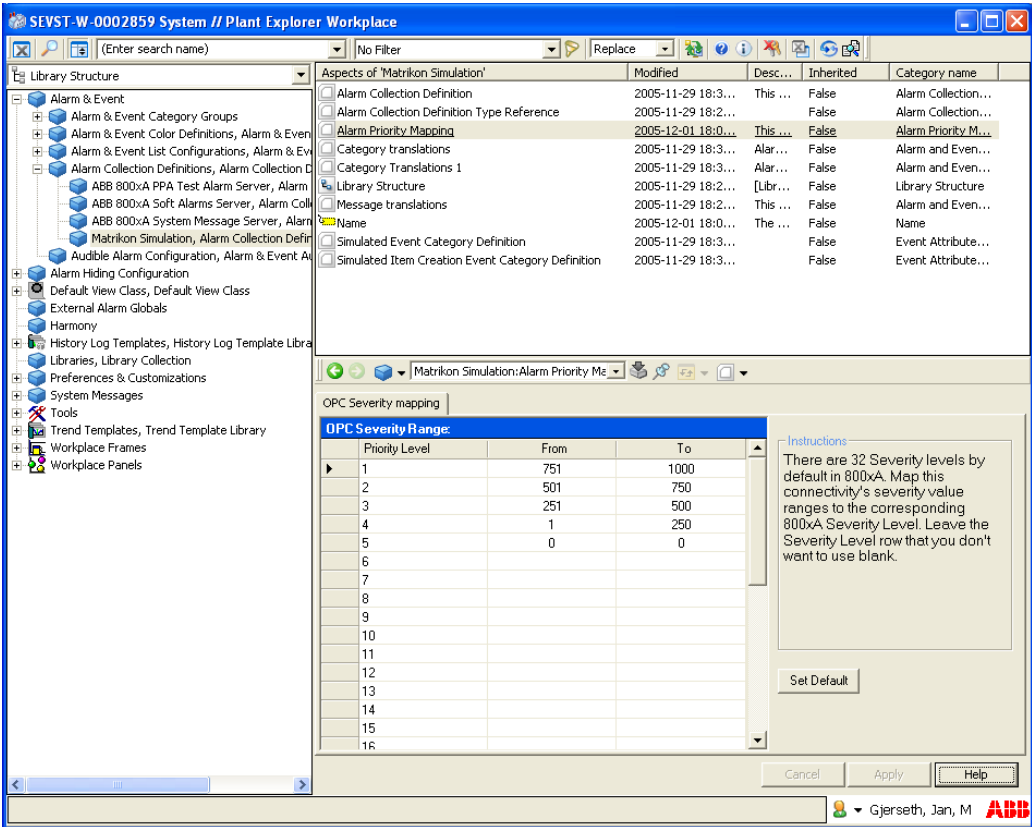

Figure 281. Alarm Priority Mapping
3. Adjust the priority mappings so that the alarm and events from the connected OPC server harmonize with the rest of the system, refer to Figure 281.